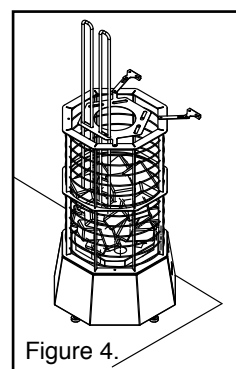

Figure 4.
- The heater must be attached to the wall or to the benches using two support irons, as illustrated in Figs. 4 and 5.